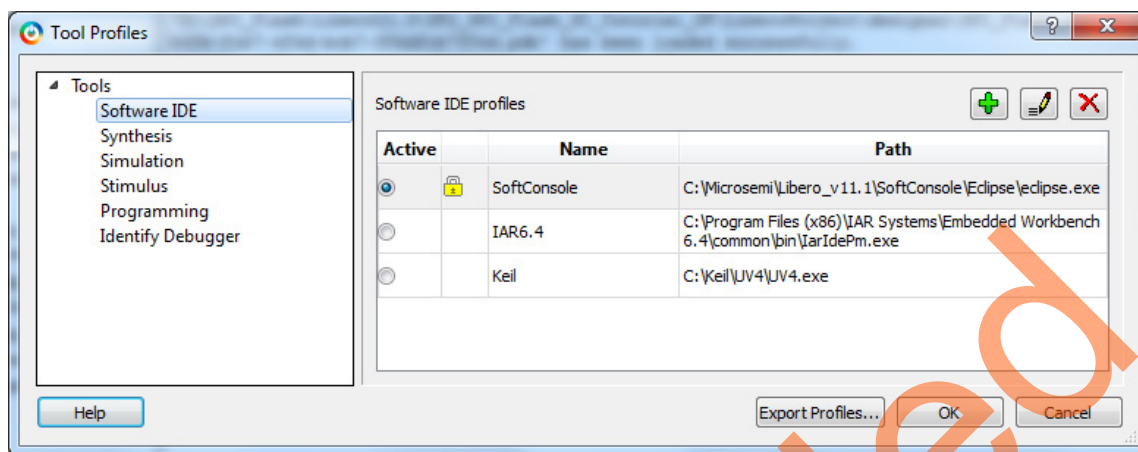

Figure 5 • Tool Profiles Window
5. Click **Edit Tool Profiles** to display the **Tool Profiles** window as shown in Figure 5 on page 8.